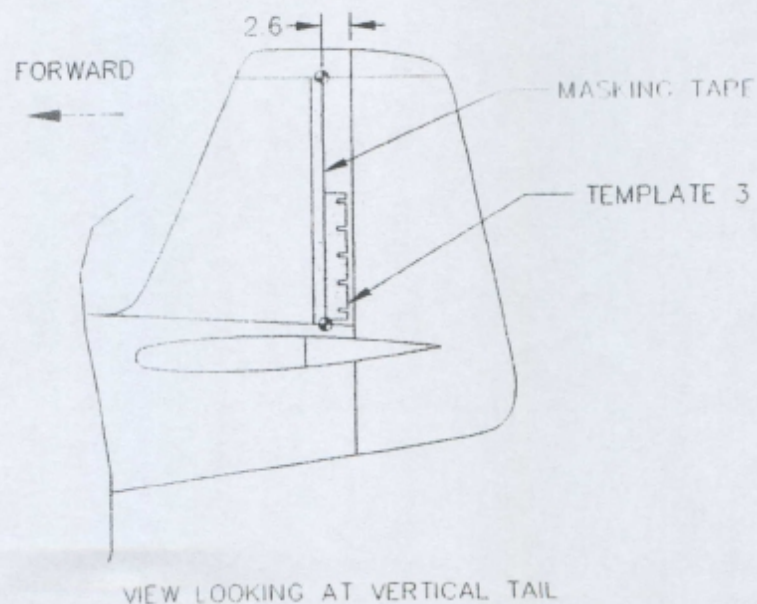

FIG. 5
4.2 Measure 2.6" forward of the trailing edge of the vertical stabilizer. If there is a rivet line near the trailing edge of the vertical stabilizer measure 2.6" ahead of the rivet line, this will ensure that the vortex generators will not interfere with the rivets. Mark that location at the root and at the beginning of the tip of the vertical stabilizer with a felt tip pen. Apply masking tape from the vertical stabilizer root to the beginning of the tip in a straight line with the downstream edge of the masking tape adjacent to the marked positions. This masking tape will be used as a straight edge guide. See figure 5.
- 4.6 Tape the template adjacent to the masking tape and at the vertical stabilizer root as shown in figure 5. Stick the vortex generators to the vertical stabilizer by removing the protective liner and placing the vortex generators in the five template notches making sure that the vortex generators are correctly facing forward as shown in figure 3. Move the template over so that the first template notch lines up with the last vortex generator attached to the vertical stabilizer. Attach four more vortex generators to the vertical stabilizer. Continue repeating this operation until all the vortex generators are all placed on the vertical stabilizer. Then repeat this procedure for the other side of the vertical stabilizer. Remove the masking tape when completed.